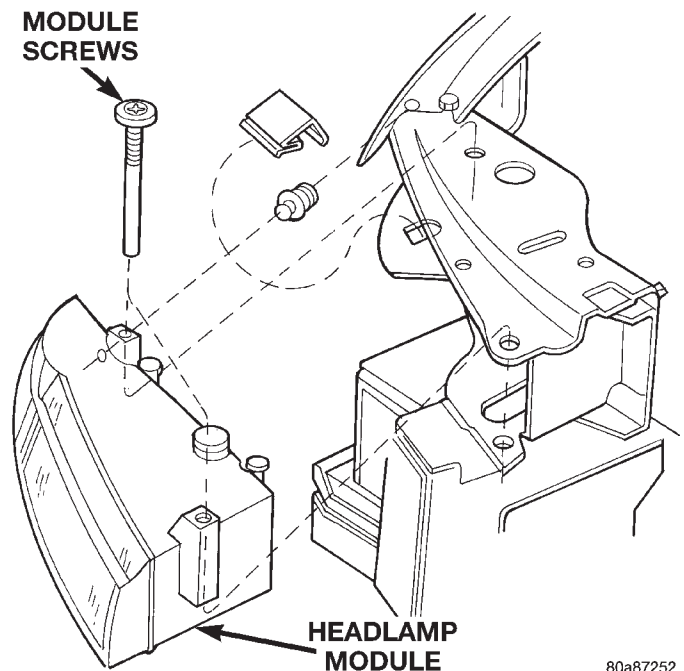

Fig. 2 Headlamp Module Screws
- (1) Release hood latch and open hood.
- (2) Remove screws holding headlamp module to radiator closure panel and headlamp adapter (Fig. 2).